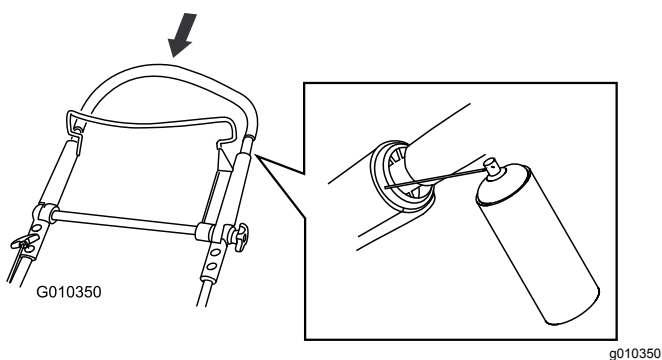

Figure 21
2. Push the upper handle fully down and spray the inner plastic surface of the outer handle (Figure 21).